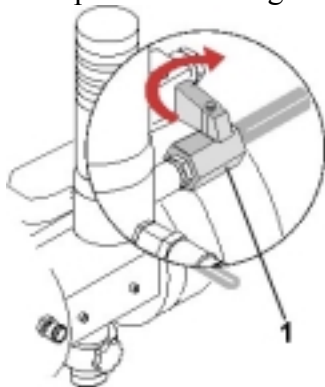

Fig.29
- 6) Open the discharge tap ❶ to remove all of the air inside the circuit (fig. 29).